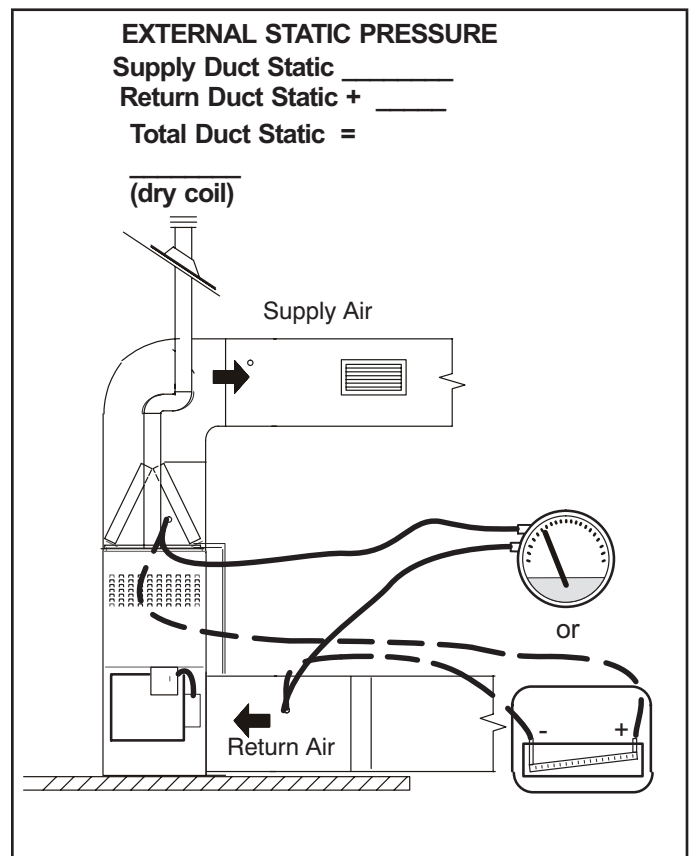

FIGURE 19
- 1 - Tap locations shown in Figure 19.